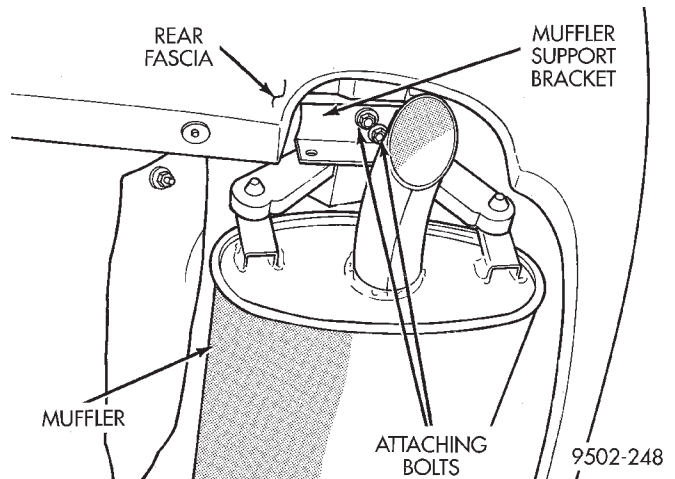
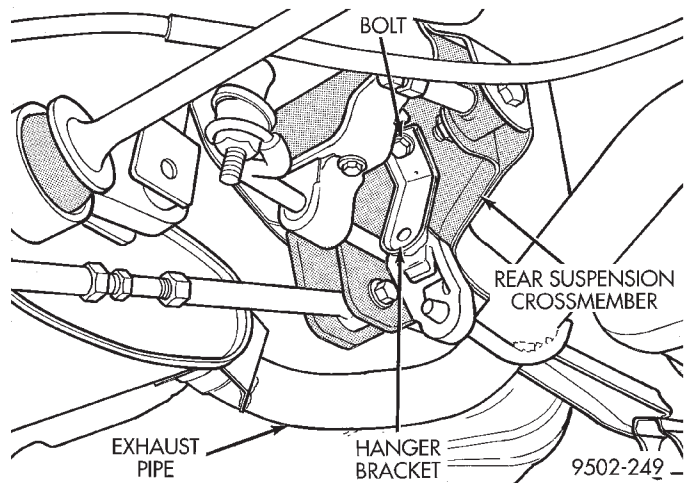

Fig. 22 Muffler Support Bracket
Fig. 23 Exhaust Pipe Hanger At Rear Suspension Crossmember
- (4) Remove muffler support bracket from rear frame rail (Fig. 22).
- (5) Remove the rear exhaust pipe hanger bracket from the rear suspension crossmember (Fig. 23). Let exhaust system drop down as far as possible.
(4) Install upper ball joint stud in knuckle. Install and tighten the ball joint stud castle nut to a torque of 67 N-m (50 ft. lbs.). Install cotter pin in ball joint stud.
(5) Remove transmission jack supporting rear suspension crossmember.
(6) Install muffler support bracket on rear frame rail (Fig. 22). Install rear exhaust pipe hanger on rear suspension crossmember (Fig. 23).